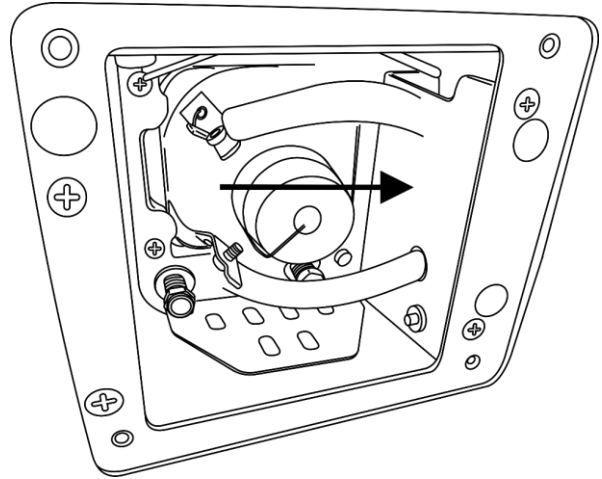
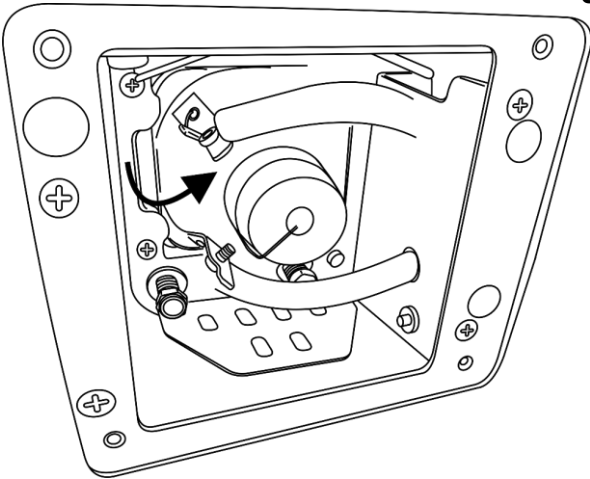

Fig. 04
Fig. 05
- 04) Remove the old lamp by pushing the lamp to the right (fig. 04) and releasing its left-hand side (fig. 05).